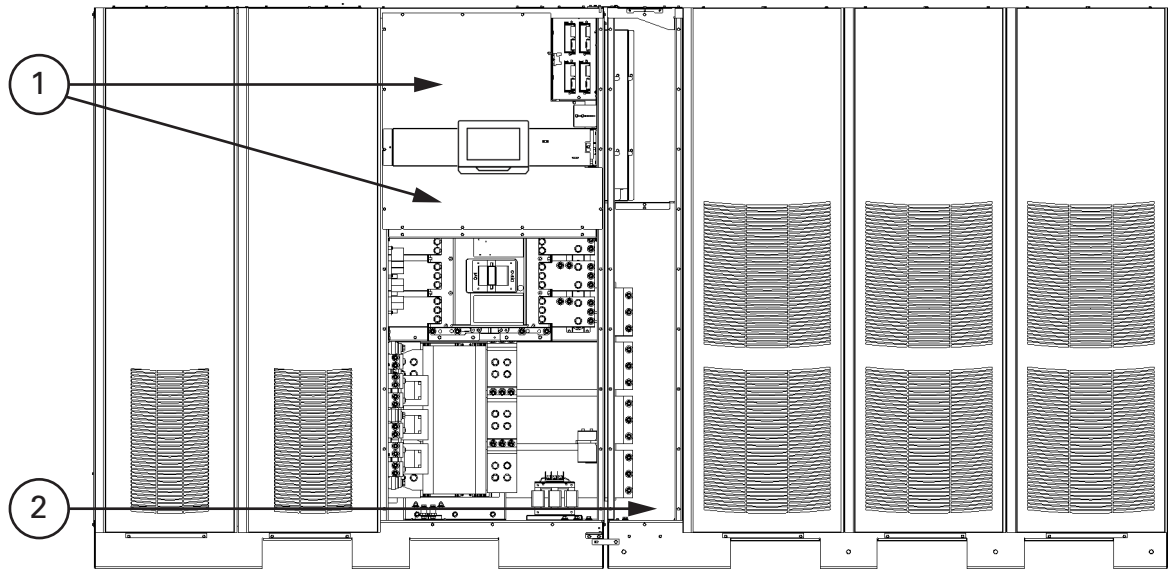

Figure 4-4. ISBM and UPM sections joined
7. Using a forklift with the forks in the front forklift slots, position the UPS ISBM section adjacent to the left side of the previously installed UPM section. Verify that the ISBM section right side is against the UPM section left side and the front of the cabinet bases are flush with each other (see Figure 4-4).